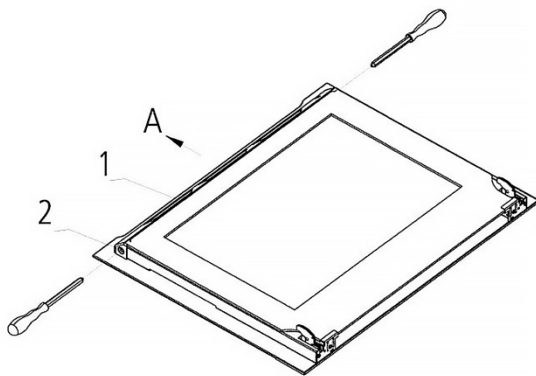

Fig. 3
1. Loose the Screws on left and right side of door, take out top rail. (Fig.3)